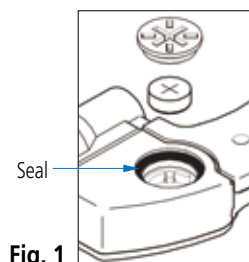

Fig. 1
5. When tightening the output connector cover and battery cap, be careful not to let the rubber seal get trapped by the cap or cover. (**Fig. 1**)